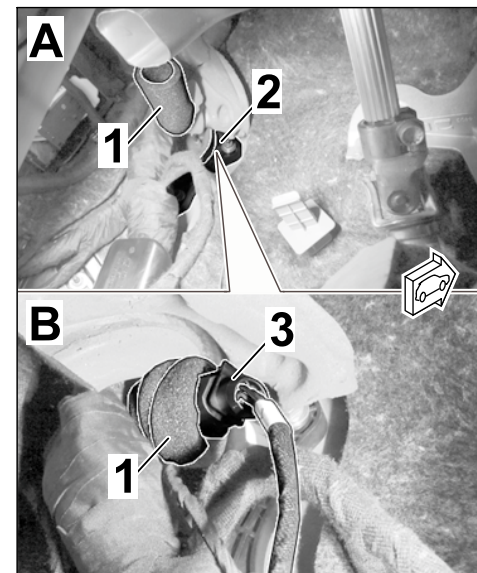

Figure 28
- 3.1.1 Expose the connection point (preparation = socket connector, 6-pin) in the passenger compartment of the vehicle, area of bulkhead grommet, A-pillar left (⇒ *Figure 28 -A-*).
- 3.1.3 Establish a connection between the plug connection preparation and the wire harness for the exhaust flaps (6-pin) ⇒ *Figure 28 -B-*.